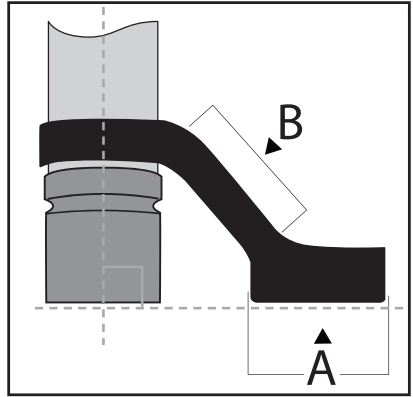

Figure 2
Reaction bar must be properly installed and used to minimize hazards due to reaction torque. See Figure 2. Loss of tool control and injury can result if reaction bar is not used.
- Torque reaction bar must be installed with the center of the reaction bar and nut (fastener) perpendicular to the center axis of the tool. See Figure 2.
- Only react torque on maximum surface of the reaction bar. See Figure 2, A.
- Do not react torque on other surfaces of the reaction bar. See Figure 2, B.